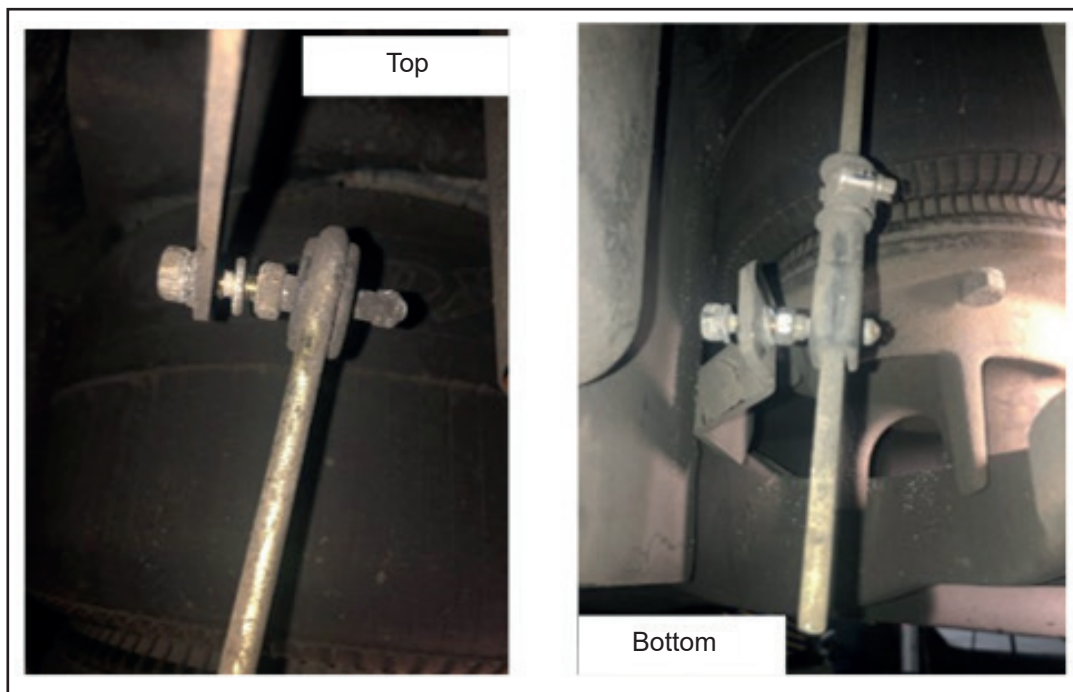

Figure 19 - Leveling the Valve
1.44. Leveling valve with top and bottom nut loosened (See Figure 19).